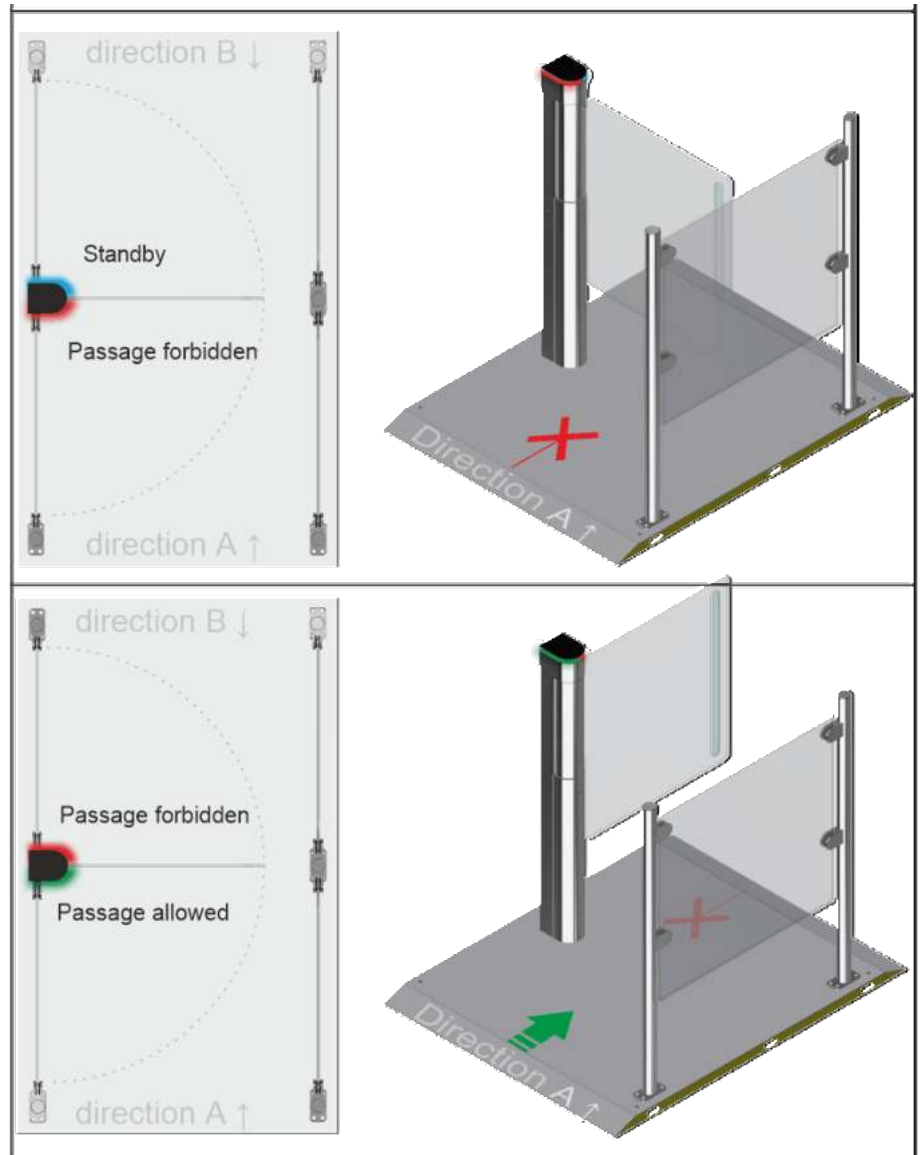

Fig.8 – Turnstile basic statuses LED display
2. Green arrow is lit on LED display (Fig.8) and leaves swing to 90 in the relevant direction, i.e. they are opening. Pedestrian is able to access through the turnstile freely.